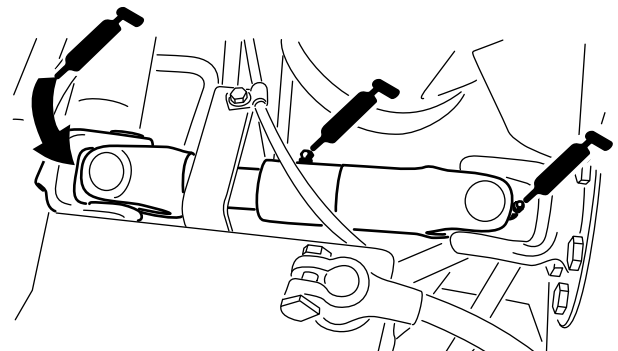

Figure 52
- Pump drive shaft U-joint (3) (Figure 52)